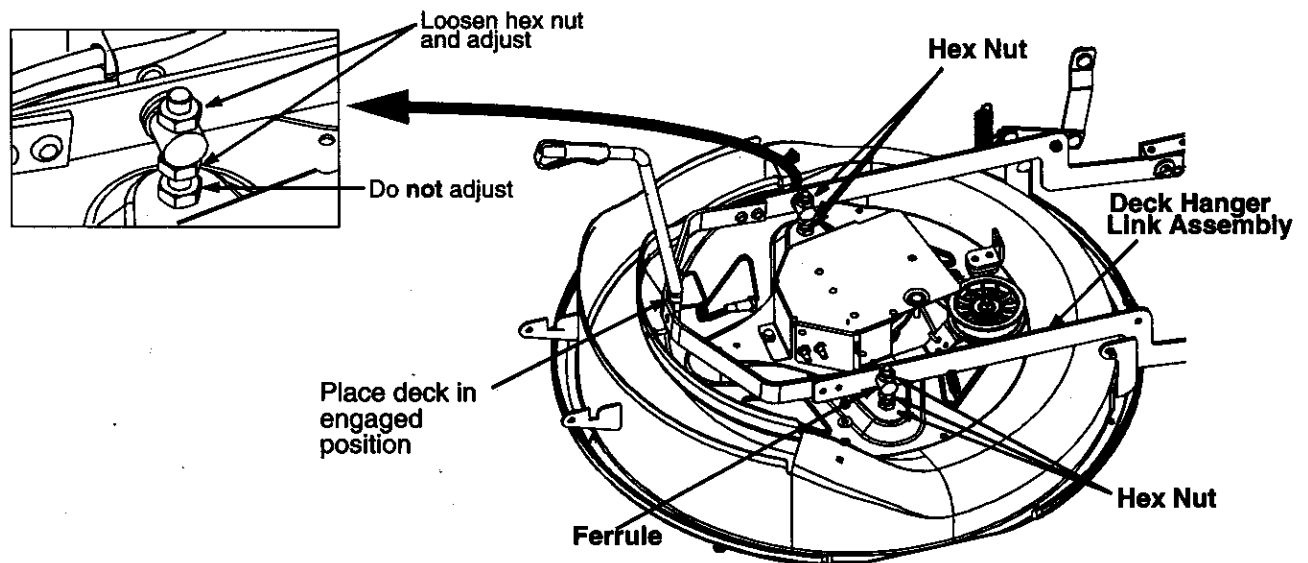

Figure 24
- Loosen the top hex nut out of the three nuts that hold the hex bolt and the ferrule on the deck hanger link assembly. See Figure 24. **Do not try to loosen or tighten the bottom nut.**
- Loosen the second nut up or down as necessary. See Figure 24.